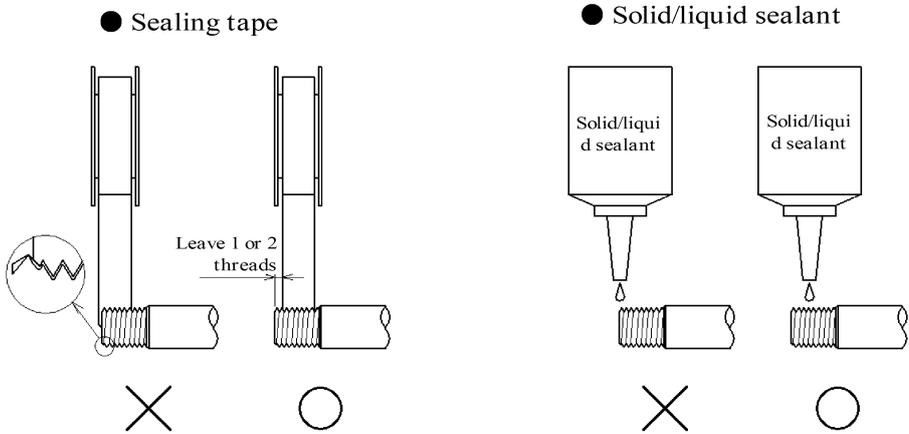

Figure 1. Sealant application
(4) Sealant
- When using sealant, be careful not to let it get inside the pipes and ensure that it does not leak outside. When wrapping sealing tape around threads, leave one or two threads at the tip of the screw. When using liquid sealant, be sure not to apply too much, leaving one or two threads on the tip of the screw. Do not apply it to the female thread side of the equipment. (See Figure 1.)